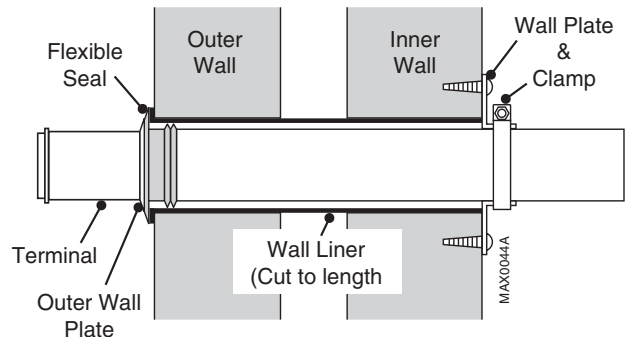

Fig. 19
- Slide the stainless steel cone along the terminal pipe, followed by the large flexible seal as indicated in Fig. 19. Apply high temperature (red) silicone sealant to ensure the terminal is weather sealed to the liner.